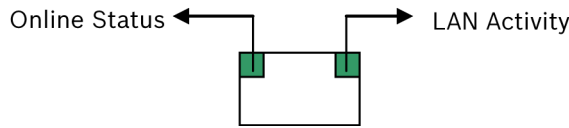

Fig. 4.4 LAN Indicators
A shielded Ethernet cable must be used to connect the RJ-45 Ethernet port to a hub on a network after you assign a permanent IP to the RAID subsystem. This enables you to manage your subsystem via the web. Two (2) LEDs located on the Ethernet port indicate the Ethernet connection status. See *Figure 4.4* for the locations of the two (2) LED indicators. Refer to *Table 4.5* for the LED definitions.